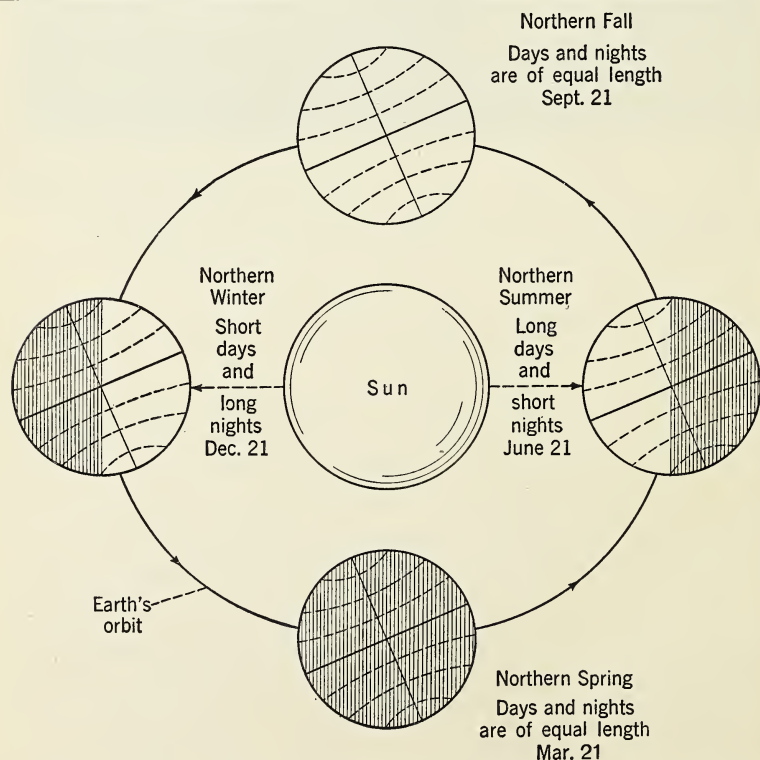

FIG. 3-4. The revolution of the earth around the sun is one of the causes of the changes of seasons. Can you give another cause?
76. The northern spring. Let us use the lamp, table, and globe in the same manner as before. Suppose you hold the globe at the west end of the table, with its axis inclined $23\frac{1}{2}^{\circ}$, and pointed toward the north wall of the room. The *direct* rays of the lamp which represents the sun will then shine on the equator, and the *slanting* rays will reach from pole to pole. [See Fig. 3-4.] When our earth is in this position, about March 21, it is spring in the northern hemisphere and autumn in the southern hemisphere. This position is called our *Vernal Equinox*. The days and nights are of equal length.